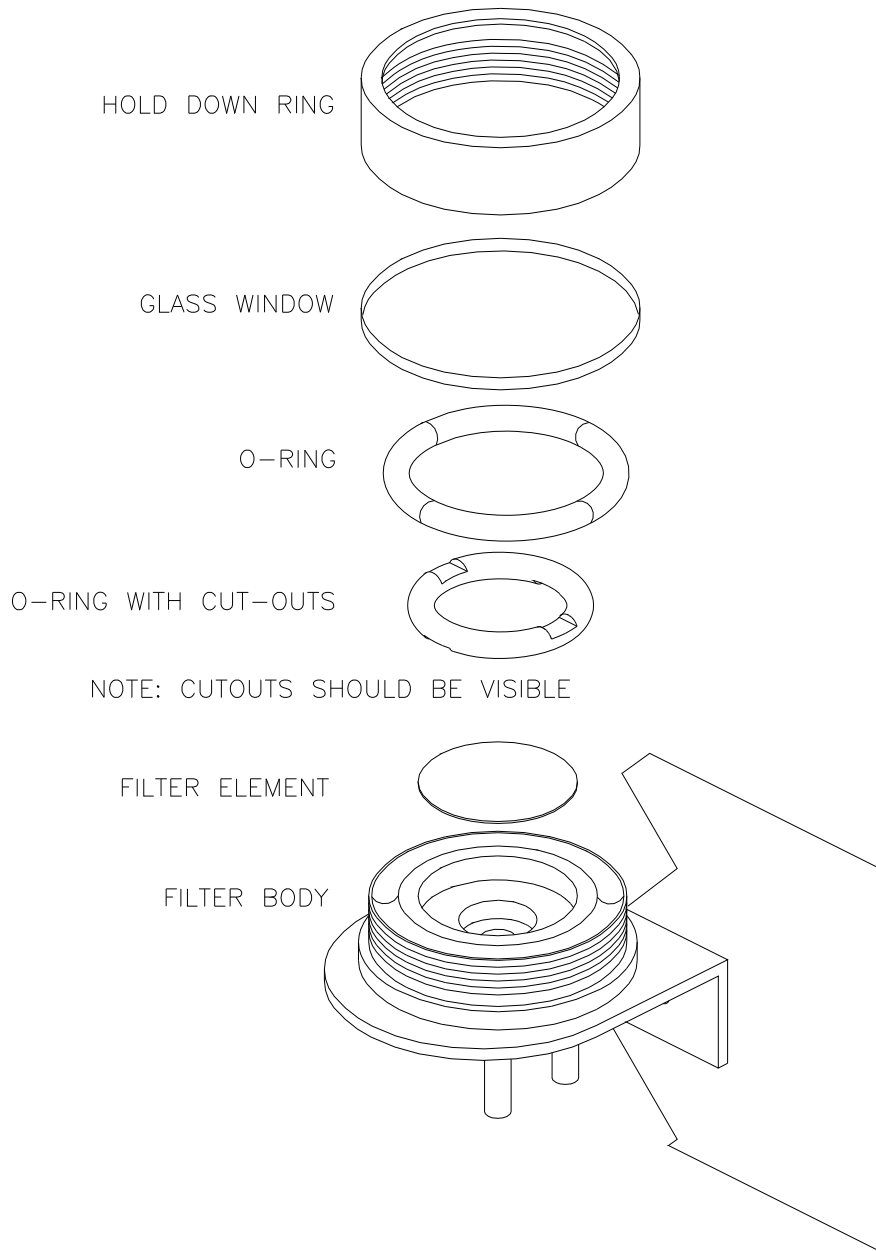

Figure 3. Replacing the Particulate Filter
2. Locate both filters on the left and right side of the 501Y front panel. See Figure 3 for an exploded view of the filter assembly.